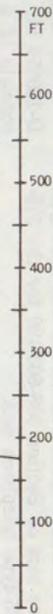

Fig. 20—Satellite Nomograph
3.20 The number of additional conductors required per L and LG lead is determined using the nomograph shown in Fig. 20. To use the nomograph, it is necessary to know three items:
By plotting the values on the proper scales and connecting them, the required number of additional conductors required per L and LG lead can be determined. The three required values are plotted on scales A, B, and E, respectively, on Fig. 20. The number of additional leads required per L and LG lead will be found on scale D. Scales C1 and C2 are used only to establish reference points.
satellite, and the farthest station is 175 feet from the satellite. These figures are used as an example shown on Fig. 20 and are shown as dotted lines. To determine the number of extra leads required, use the nomograph as follows: